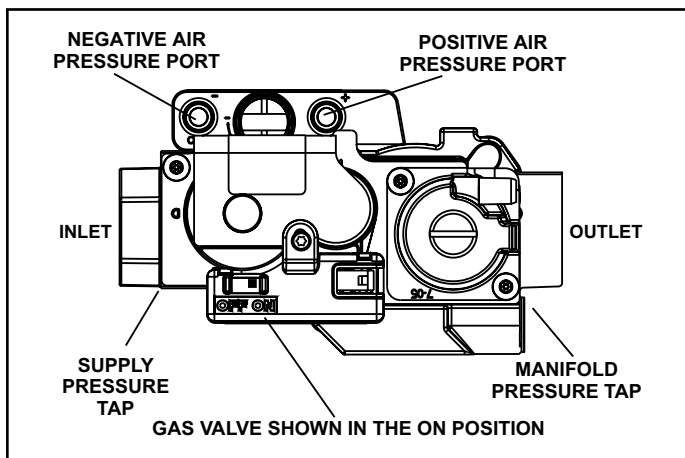

Figure 16. Gas Valve
6. Move gas valve switch to OFF position. Do not force. See Figure 16.
8. Move gas valve switch to ON position. Do not force. See Figure 16.
4. Move gas valve switch to OFF position. Do not force. See Figure 16.